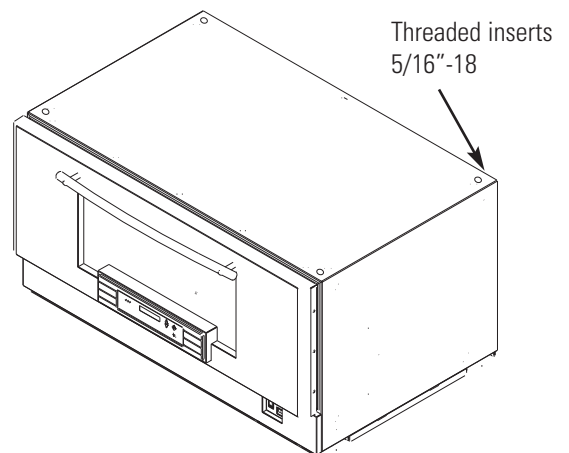
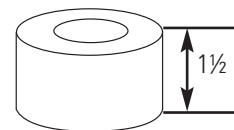

Figure 1-2. Exterior Top of Unit
Figure 1-7. Spacer
Caution Do not lift with forklift or other lifting device near the center of the unit base. Damage to the shaker mechanism mounting may occur. When lifting from the base, position the lifting device as close as possible to the leveling feet. Whenever possible, lift the unit by the four threaded inserts (Figure 1-2). Do not attempt to lift a stack of units by the threaded inserts. The inserts are provided to lift and position only one unit at a time. ▲
2. Place the 1½ inch tall spacers (Figure 1-7) over the threaded inserts in the top four corners of the base unit (Figure 1-2).
3. Using the appropriate lifting device, carefully raise the unit to be stacked. Remove all (4) leveling feet.
4. Carefully lift and position the middle or top unit over the spacers on the base unit. Align the (4) connection point holes in the bottom of the middle or top unit with the (4) spacers and threaded inserts. (Helpful hint: use masking tape around outside edge of spacers to hold in place during installation. Remove tape after installation.)